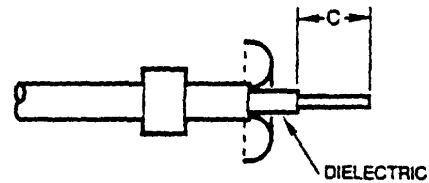

Figure 6. Braid Fold-Back
c. Flare the shield back as shown in Figure 6. Do not comb out individual shield strands. Using a sharp knife, strip dielectric to dimension C in Table 2.